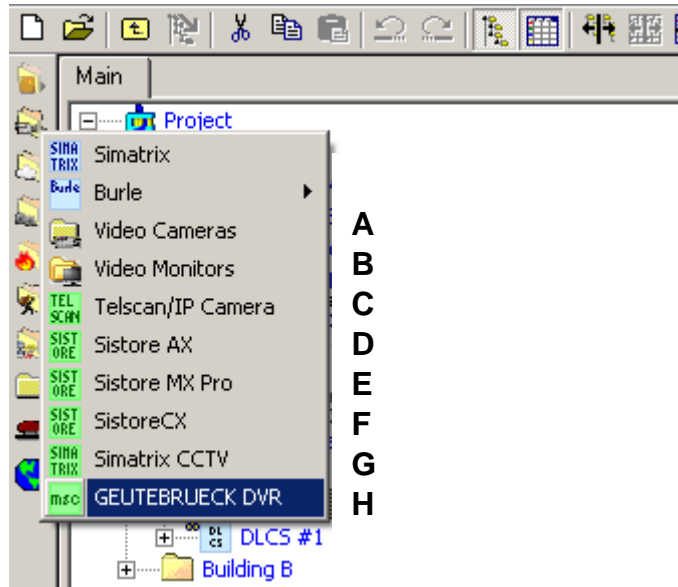

Fig 4 CCTV components menu
The following Fig 4 illustrates the menu options and the corresponding CCTV components.
- see Fig 4 at p. 7.